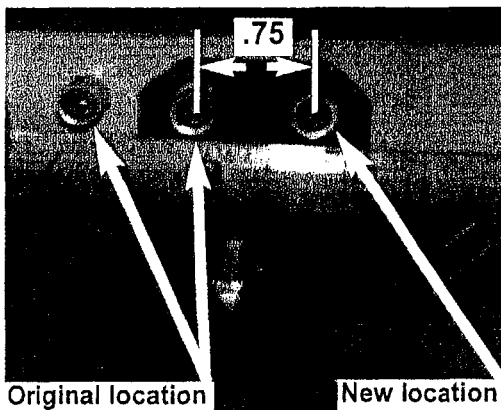

Fig. 3
3. Drill out the two rivets in the bracket. Relocate .75 toward trim edge. Use bracket to locate and drill a .261-.272 hole. Install Rivet, part #TBB 100434. Fig 3 & 4